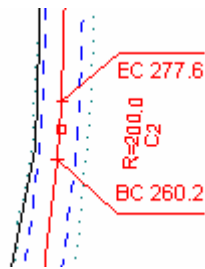

Figure 8.5: Labels after Repositioning and Reorienting
12. Reorient and reposition the labels, so that they appear similar to Figure 8.5.